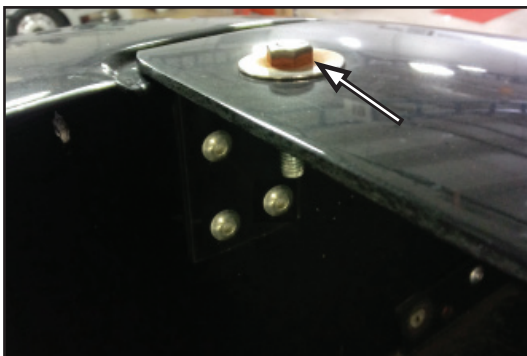

Figure 7
10. While having an assistant on a ladder at the rear of the coach hold the rear air deflector in place, remove the two bolts located at each end of the rear air deflector on the top surface using a 1/2" socket/ratchet and a 1/2" open end wrench. See Figures 7 and 8 for location detail. Set the fasteners aside for reinstallation.